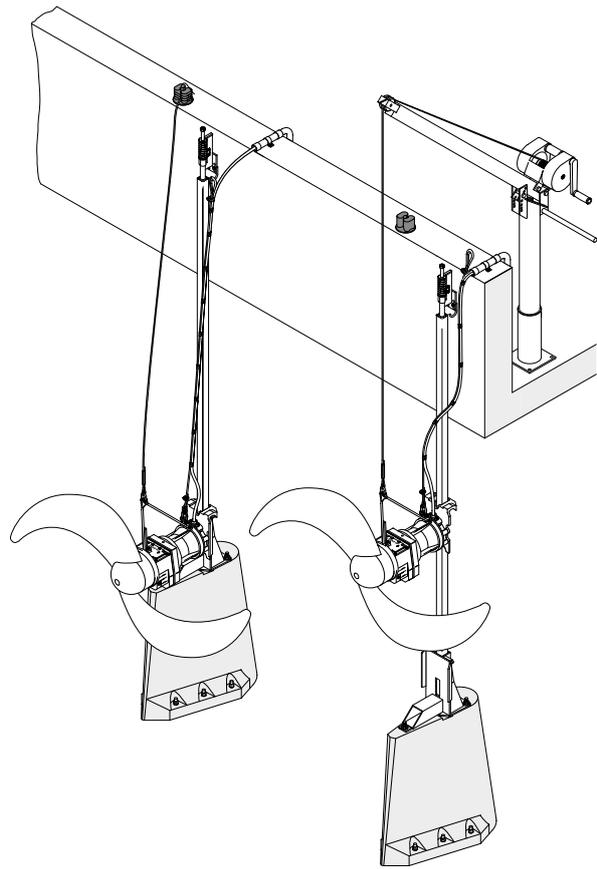
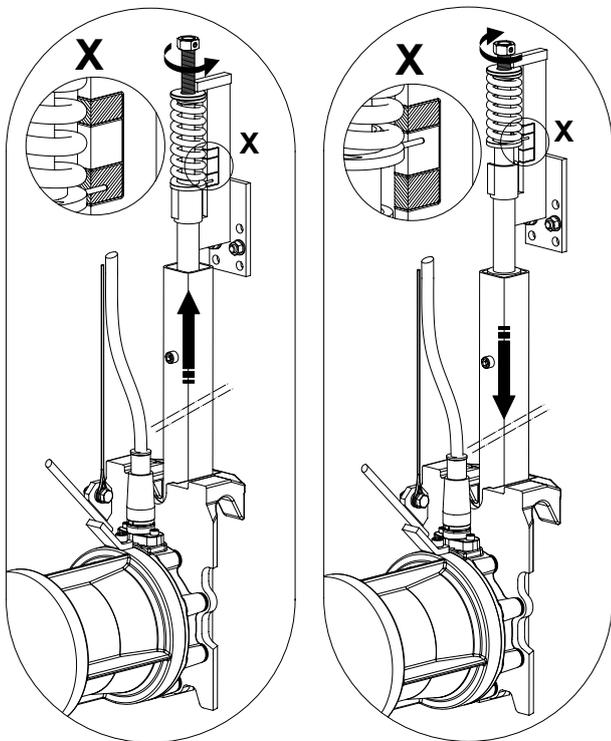

Figure 2 SB/XSB with lockable coupling system
Figure 3 Locking/Unlocking of coupling system with fixed installation (Variant A)
In case of flow booster units with the **lockable** coupling system (see *Figure 2*) the coupling system must be unlocked before removal. (See *Figure 3 and 4*). Lift the flow booster (after unlocking the coupling system) with the aid of a hoist out of the tank and place it onto an even firm flat surface.
- Turn the tube holding screw fully counter clockwise for “Variant A” or fully clockwise for “Variant B” (see figures 3 and 4 respectively).
- Turn the tube holding screw clockwise (see figure 3) so far until the indication pin is inside the green marking of the spring load indication device of the tube holder. If the indication pin is not inside the green marking the unit has not coupled in a proper manner!